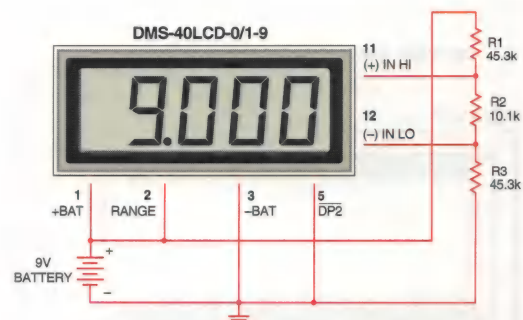

Figure 8. Power Supply Monitor (9V-Powered Models)
- 6. Power Supply Monitoring:** A popular application for DATEL's low-power LCD meters is monitoring the supply voltage in battery-operated portable equipment. Figure 8 demonstrates how a 9V-powered DMS-40LCD can be used to monitor its own supply. The meter used is the DMS-40LCD-0/1-9 configured for its  $\pm 2\text{V}$  input range (pin 2 connected to pin 1). A three-resistor voltage divider is used to attenuate the battery voltage and also to satisfy the requirement that the input voltages applied to pins 12 and 11 be at least 1.5 Volts above and below the battery voltage applied to pins 1 (+BATTERY) and 3 (-BATTERY). The divider should be designed so that 1/10th the battery voltage falls across the inputs to the meter.